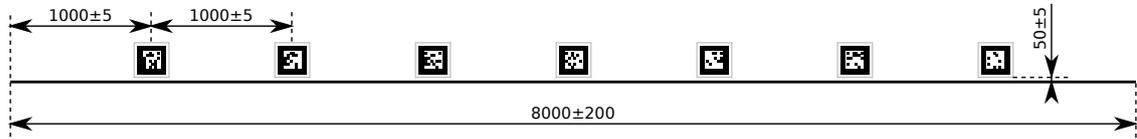

Figure 3: Seven 250mm wide markers are spaced evenly along each 8m arena wall. The markers are placed 50mm above the floor. All dimensions are in millimetres.
- 3.3.4 Each wall of the arena features seven $250mm$ libkoki markers. Figure 3 shows the positioning of these markers, whilst figure 4 shows the numbering of these markers.